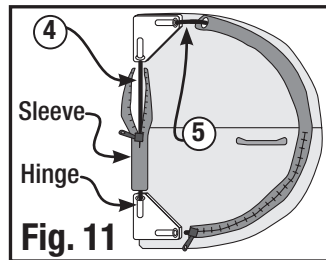

Fig. 11
2. Close zippers after inserting poles. (Fig. 11)